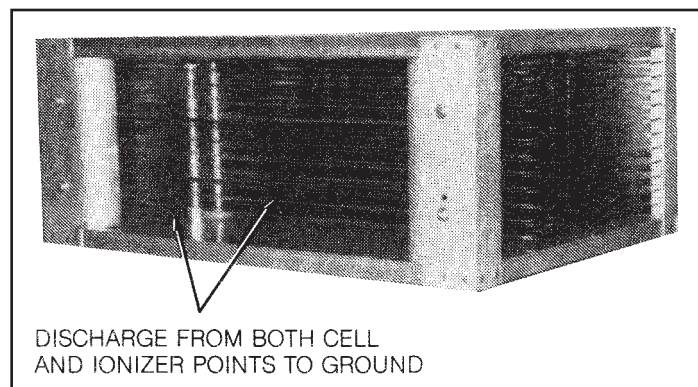

FIGURE 14
- For added safety, manually discharge the unicell by placing the blade of a common screwdriver (with insulated handle) across the ionizer wire and cabinet ground, and also one of the charged cell plates to cabinet ground (see Figure 14).